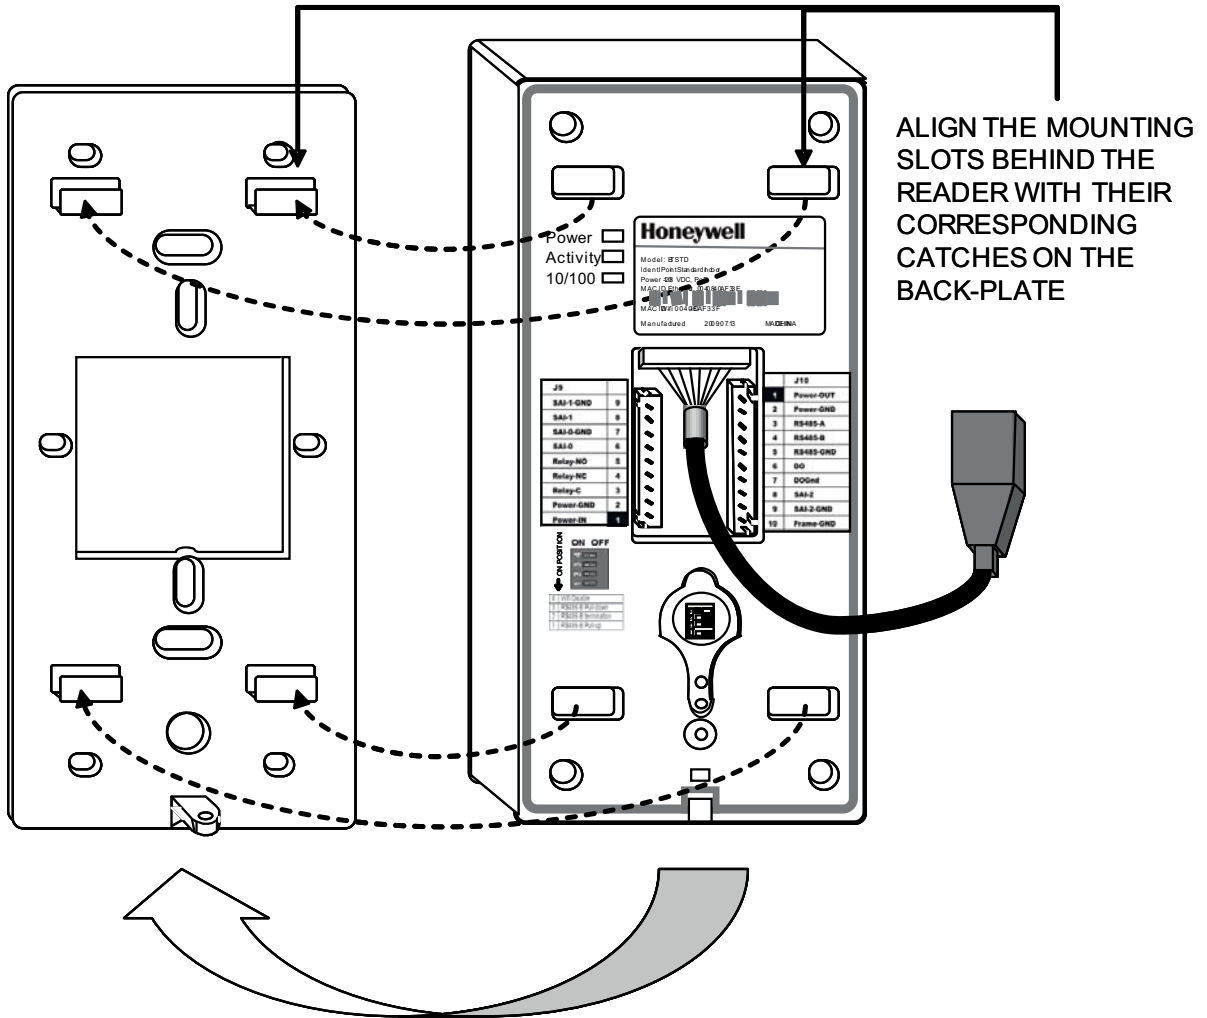
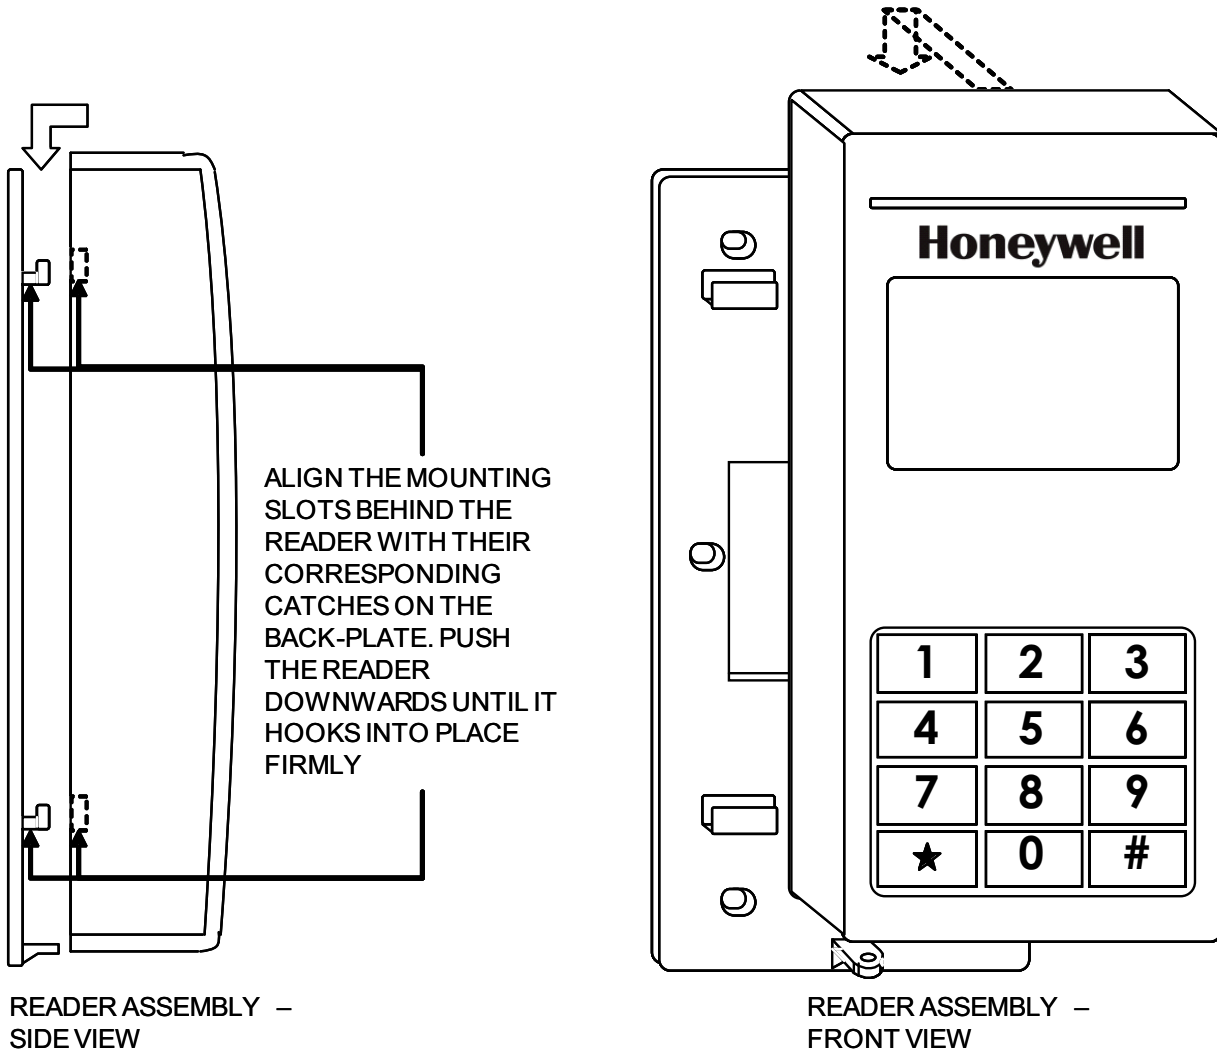

Fig. 8. Aligning IdentIPoint reader with back-plate before mounting it
Fig. 9. Mounting IdentIPoint reader on the back-plate
5. Once all the connections and settings are done, hold the reader against the back-plate, aligning the mounting slots at the back of the reader with their corresponding catches on the back-plate and push it downwards until it hooks into place firmly. See Fig.8 and Fig.9.
4. Once all the connections and settings are done, hold the reader against the back-plate, aligning the mounting slots at the back of the reader with their corresponding catches on the back-plate and push it downwards until it hooks into place firmly. See Fig.8 and Fig.9.